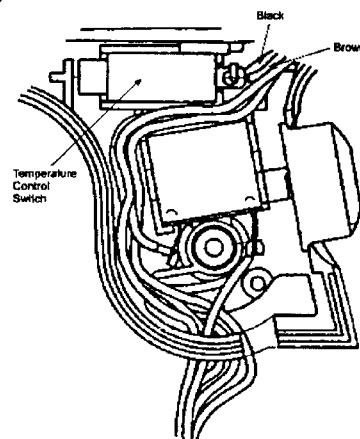

Fig.2
- (1) Insert the white, yellow, orange lead wires of selector switch, and blue, red lead wires of power cord into the housing B as shown in Fig.2.